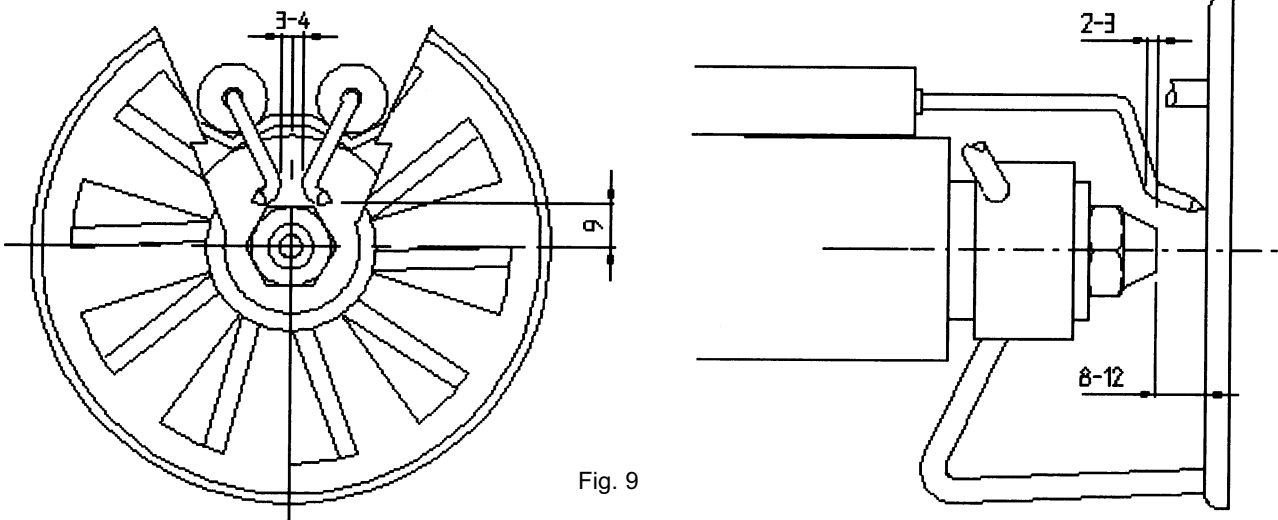

Fig. 9
- Dismantle, examine and clean the combustion head. When reassembling respect the measures reported in fig. 9;
- Examine the ignition electrodes and their ceramic insulators, adjust and replace if necessary (fig. 9);